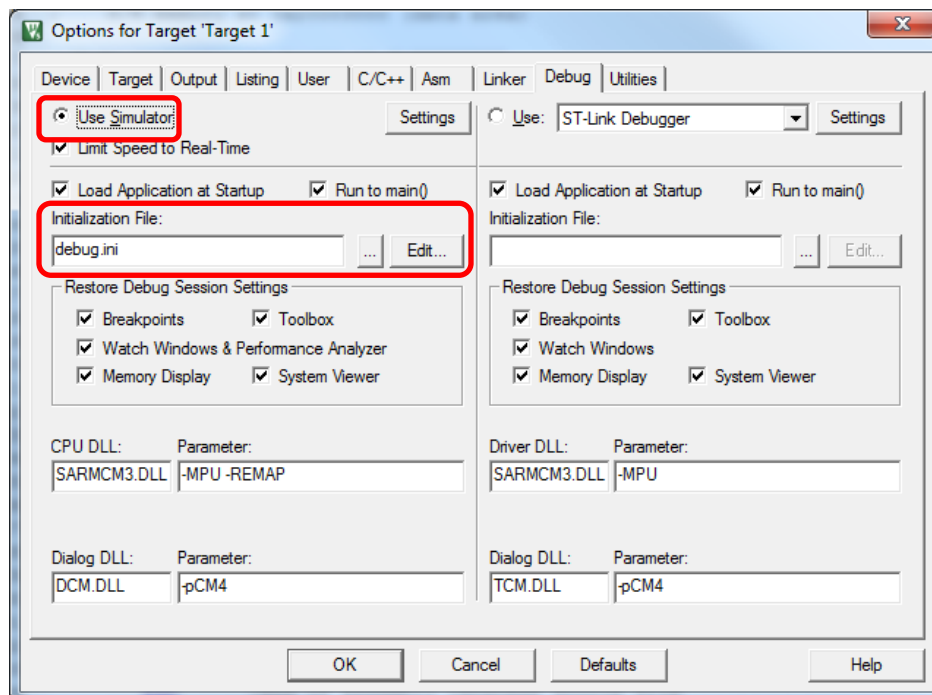

Figure 5. Target Options Debug tab. "Use Simulator" selected, and debug initialization file specified.
- Select the **Debug** tab (Figure 5) and check the **Use Simulator** button.
The following is a sample initialization file (*debug.ini* in Figures 5 and 6)